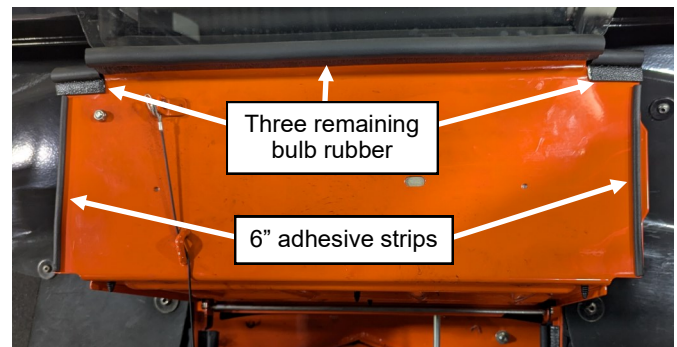

Fig. 10.10 (floor pan door with added seals)
- 10.10 Place the remaining three pieces of bulb rubber along the top edge of the floor pan door as shown in Figure 10.10.
- 10.11 Once those three pieces are in place, add the two thin adhesive rubber strips to the side edges along the surface that will be face down as shown in Figure 10.10.